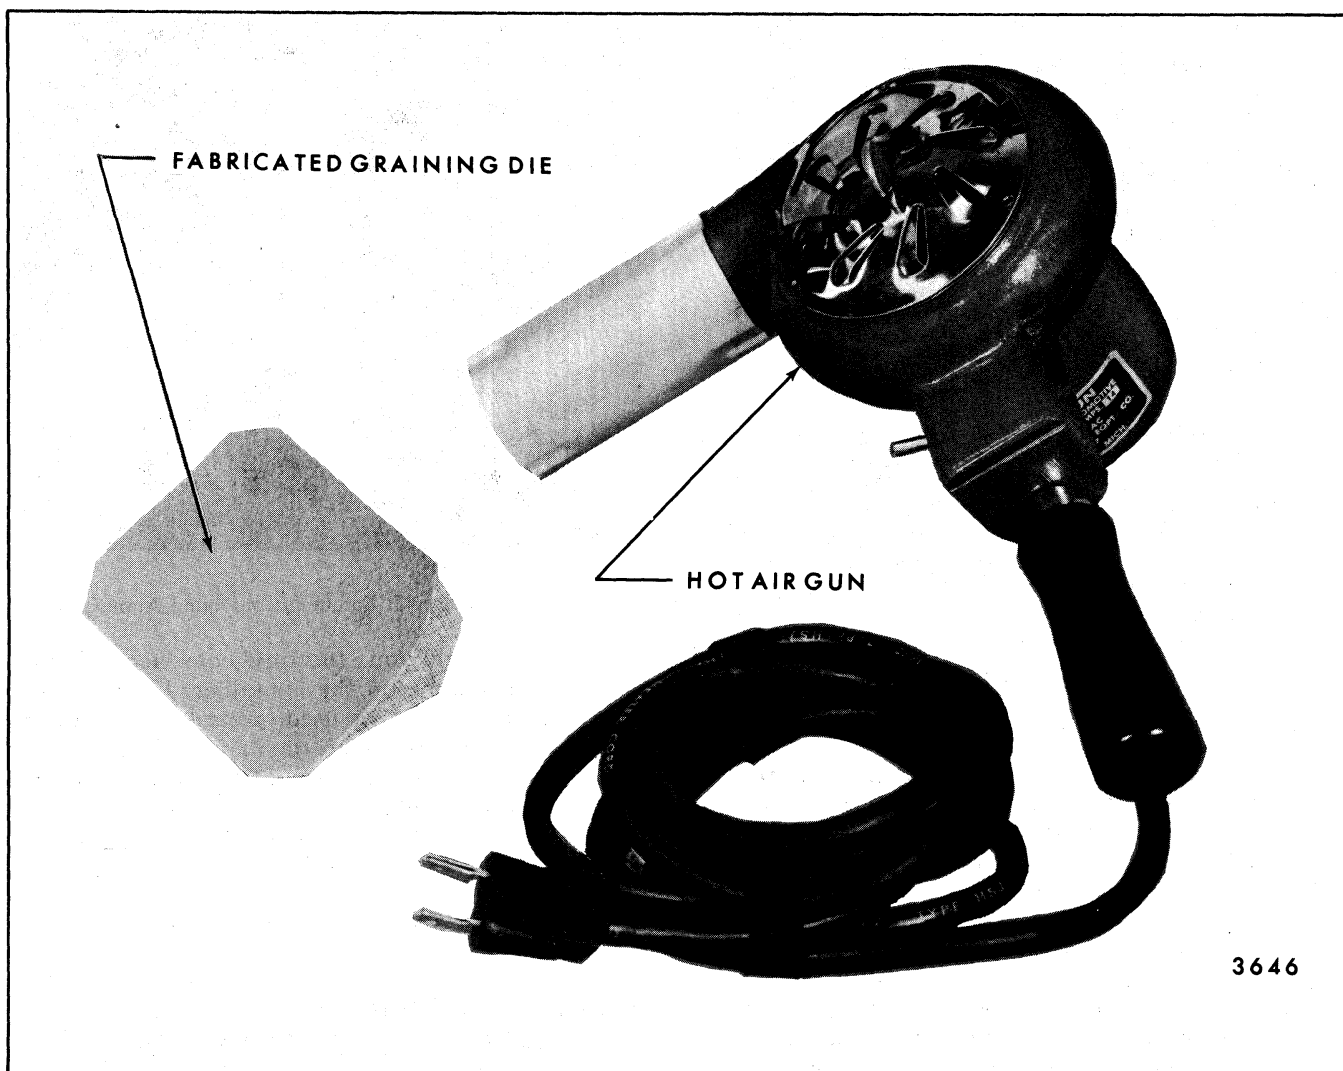

Fig. 8-60-Fabric Roof Cover Repair Die and Hot Air Gun
1. Plastic body filler and hardener - a two-part material for fabricating a graining die with an impression of the grain present in the vinyl surface of the fabric roof cover (see Fig. 8-60).
7. Hot air gun and heat control nozzle - used to cure vinyl patching compound, preferably 500 to 700 degrees heat range (Figs. 8-60 and 8-62).